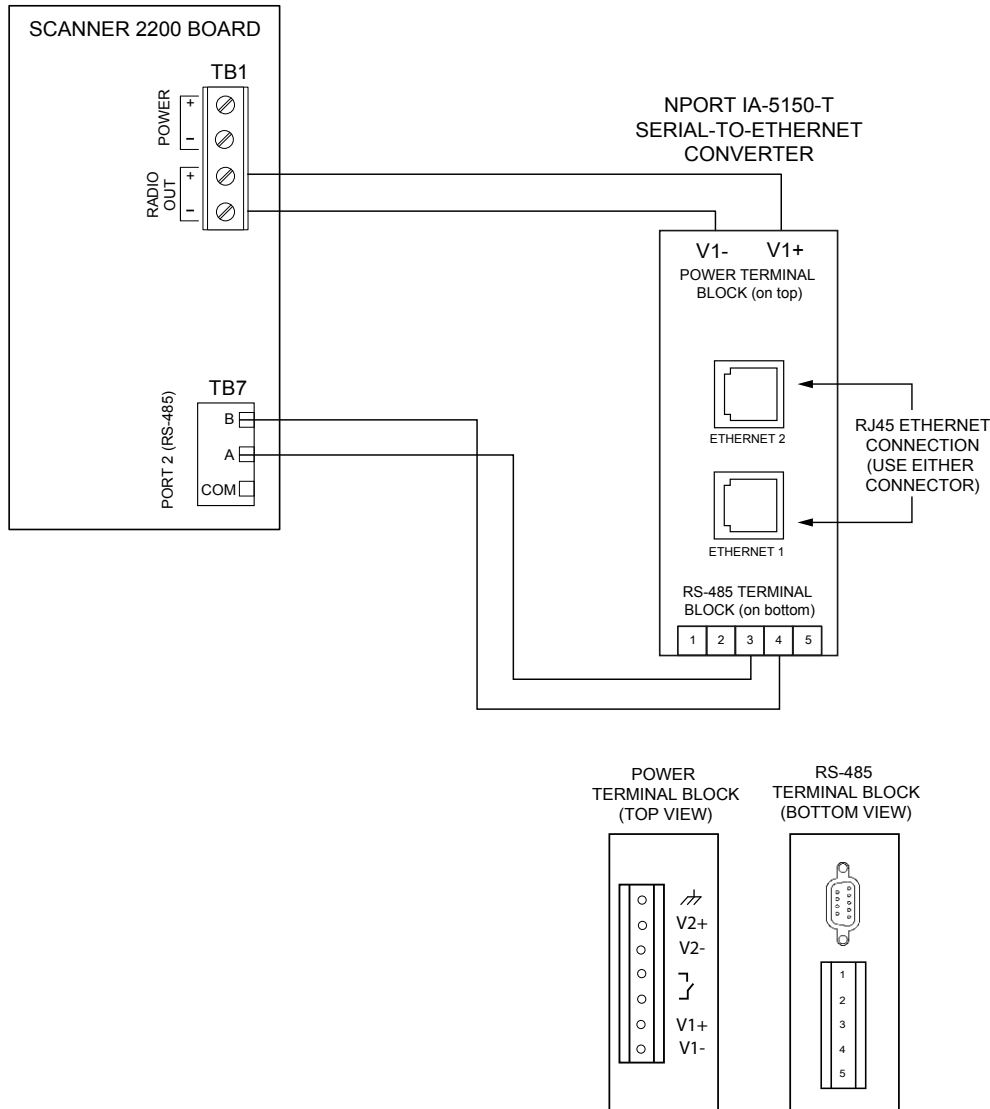
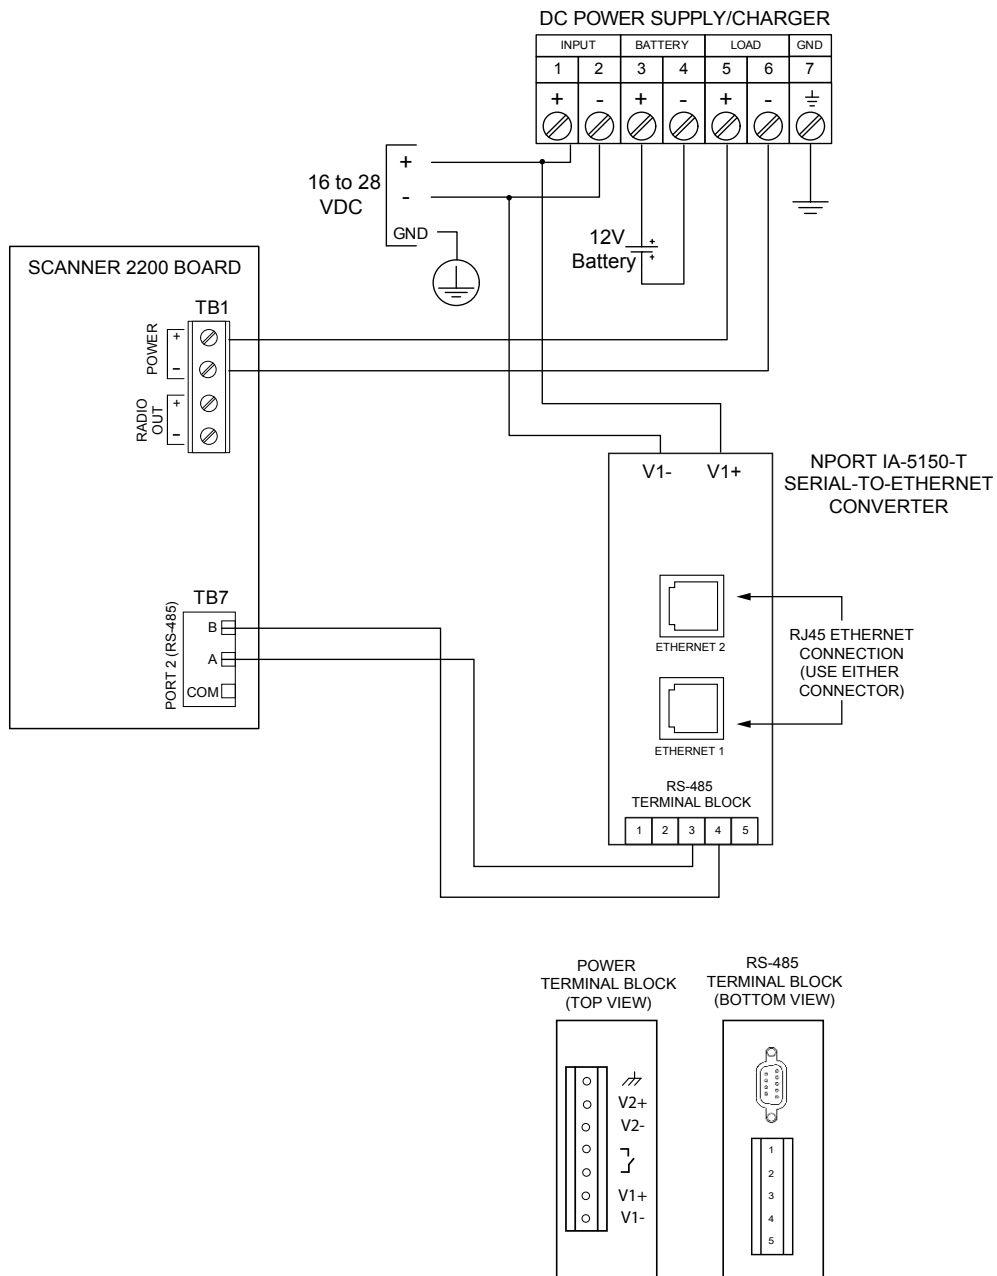

Figure B.9—Wiring for NPort IA5150-T serial device for use in solar-powered Scanner 2200
Figure B.10—Wiring for NPort IA5150-T serial device for use in Scanner 2200 powered by a DC power supply
3. Wire the NPort IA converter to the Scanner 2200 circuit board. If the instrument is powered by a solar panel and a DC-to-DC converter, wire as shown in Figure B.9. If the instrument is powered by the DC power supply/charger and a lead acid battery, wire as shown in Figure B.10, page B-13.